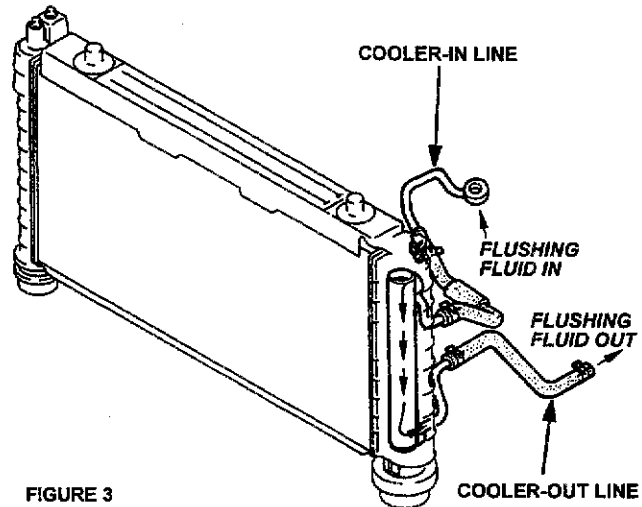

FIGURE 3
3. Connect power flushing equipment so the flushing fluid flows in the direction of normal fluid flow. Refer to page 4 to determine fluid flow. See typical example of forward flushing flow in **FIGURE 3**.